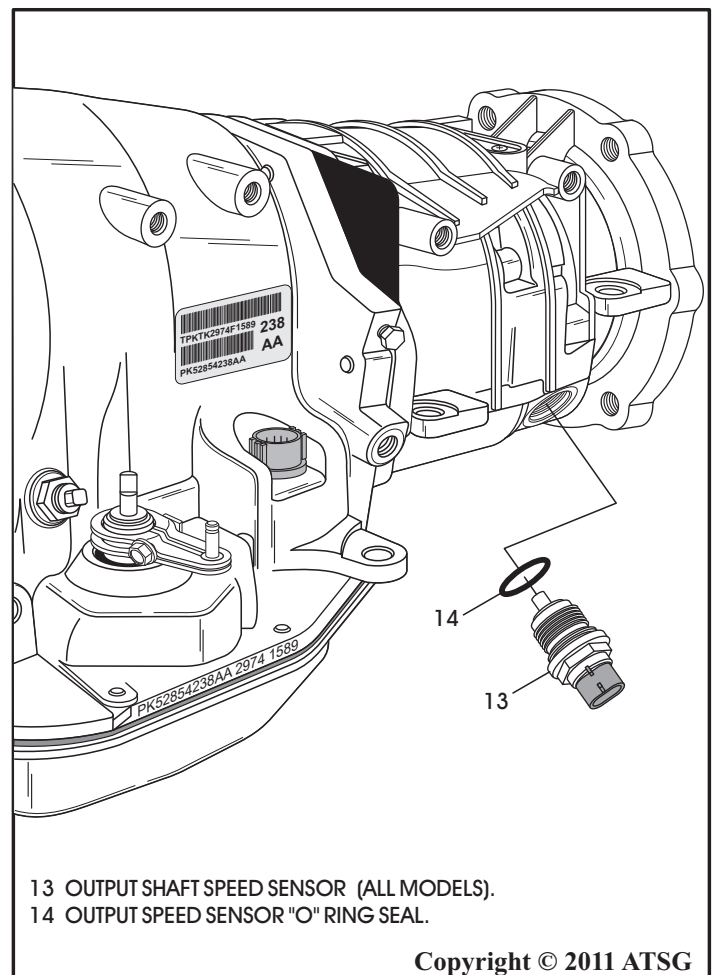

Figure 63
9. Remove the output shaft speed sensor, as shown in Figure 63.